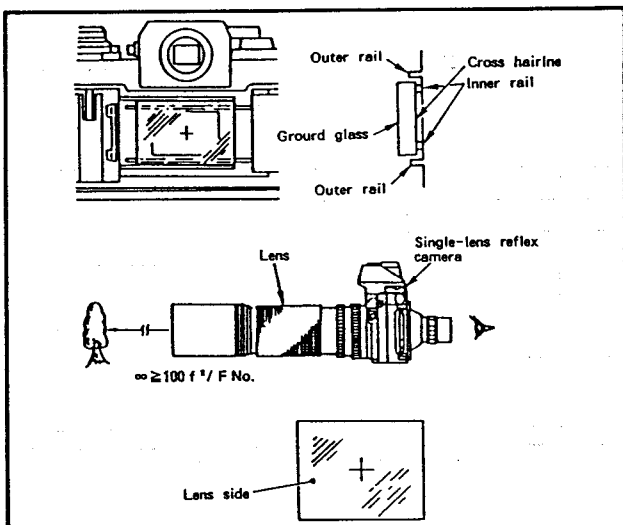

Fig. II-75
* Note: For the distance for infinity, refer to the Fig. II-75.
- (4) After the above checking, remove the ground glass once, and mark the cross-hairline on the ground glass surface. Then, attach it to the camera again.